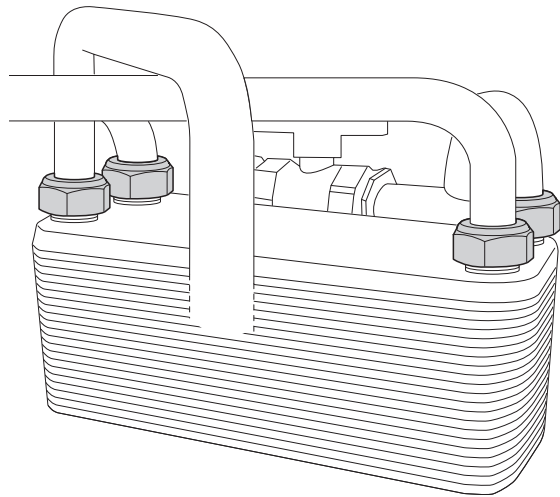

Fig. 38
8.19.7 Undo 4 unions and withdraw heat exchanger (see fig. 38).